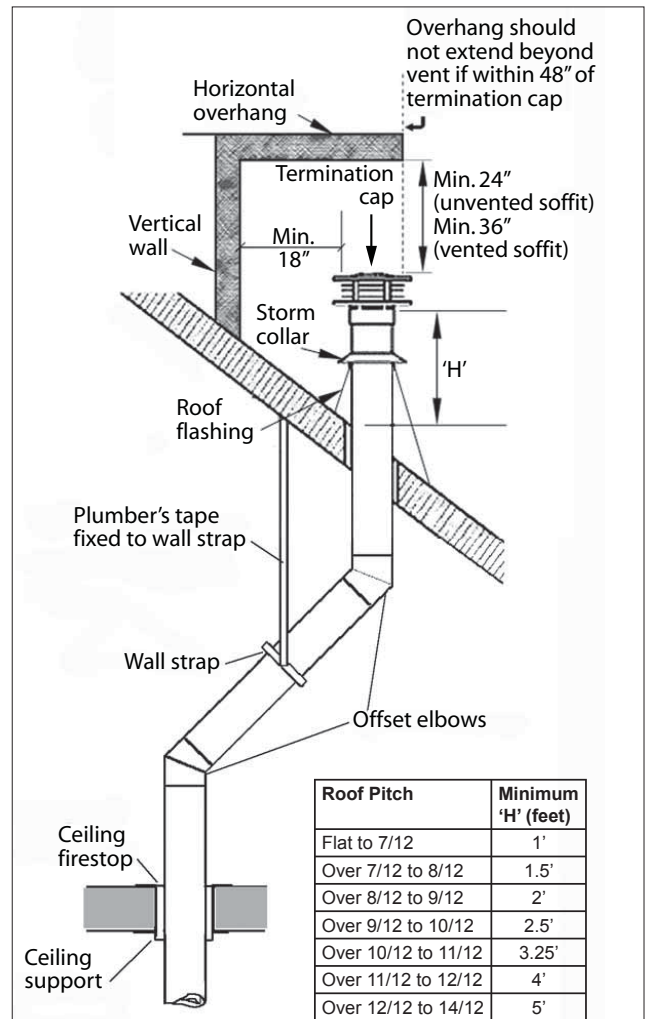

Figure 17a
2. The venting system for these appliances is considered to be a **Special Venting System**. The rule in the *Natural Gas and Propane Installation Code CAN/CGA-B149* requiring a minimum vent height of 2' above any portion of a building within 10' does not, therefore, apply. See figure 17a.